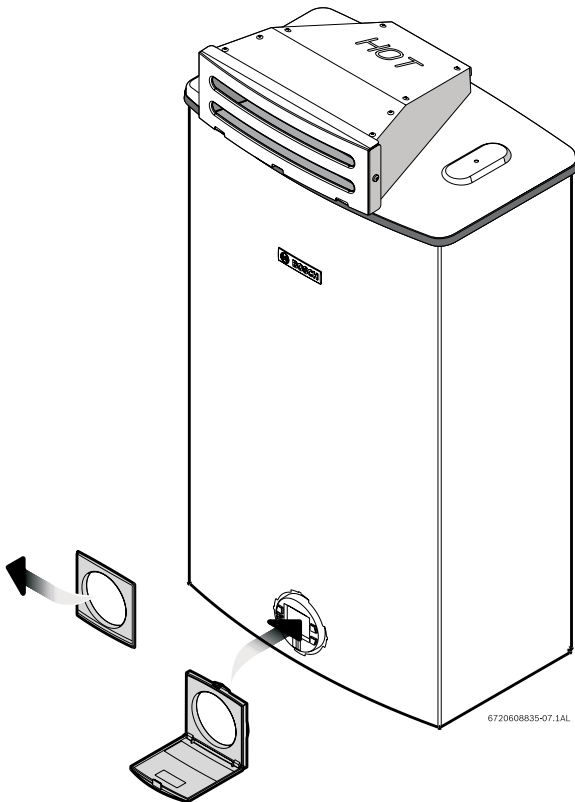

Fig. 6
- ▶ Replace the control panel shield with shield provided in kit, see Fig. 6.
- ▶ Start and operate the water heater according to the water heater installation manual. NOTE: Open the control panel shield to access the controls of the heater, see Fig. 6.